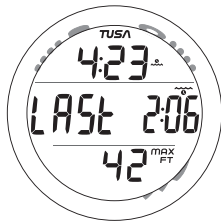

Fig. 93 - FREE SURF ALT 1
**Free Surface ALT 1** information includes (Fig. 93) -